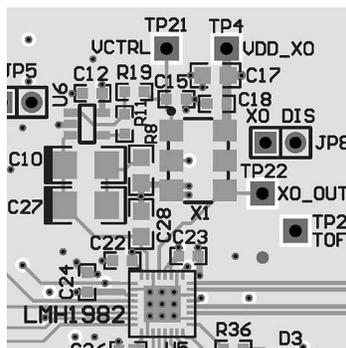

Figure 19. PCB Layout Showing Loop Filter and VCXO
- Keep the loop filter components (R8, C10, C27, and C28) next to the LMH1982 with a tight layout as shown in Figure 19.